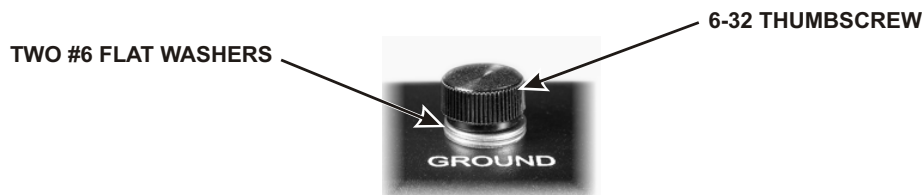

Figure 24. Installing Rear Panel Ground Screw.
□ Thread the 6-32 thumbscrew into the ground terminal position near the center of the rear panel as shown in Figure 24. Use two #6 flat washers between the thumbscrew and the back panel as shown.